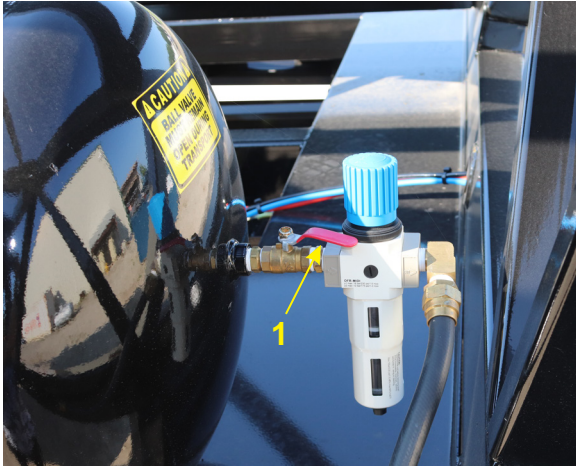

Figure 3-32 – Air-line Control Valve
- i. Make sure the control valve (1, Figure 3-32) on the main air tank is in the OPEN position. This position is in-line with the air line.